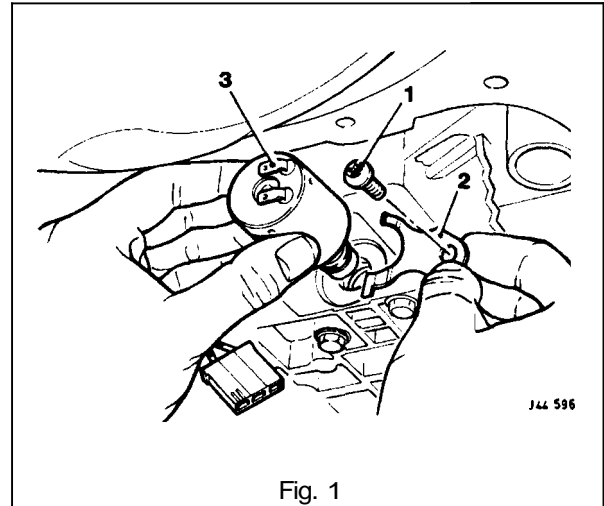

Fig. 1
- Release and remove the motor retaining clamp to valve body securing screw (1 Fig.1).
- Remove the retaining clamp (2 Fig.1) and remove the motor (3 Fig.1) from the valve body and place aside.